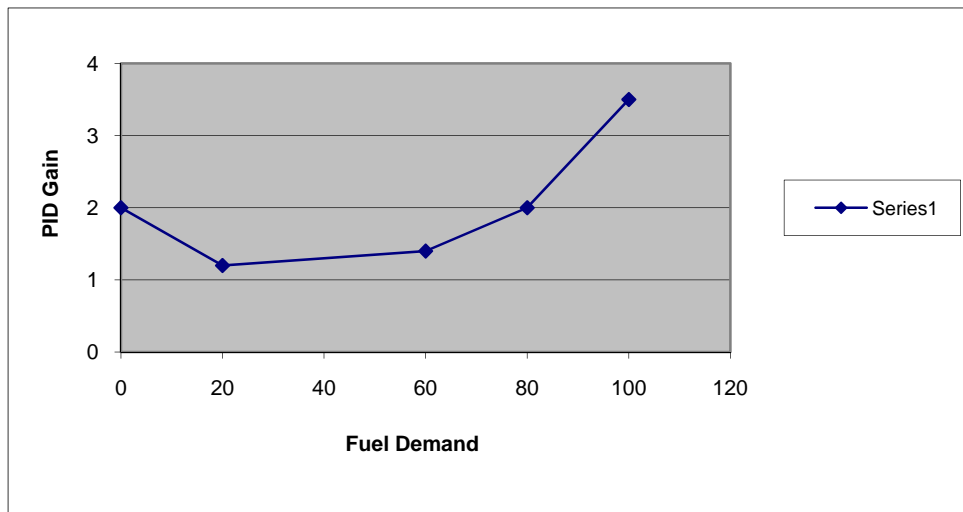

Figure 3-6. Linearized Gain Plot
Note in both charts that valve position falls on a curve. The menu does not permit the construction of a curve. However, with four slope segments (5 break points) available, a rough approximation of the curve can be created (see Figure 3-6).
- d. Create a plot of the system by plotting PID GAIN as a function of load. A typical result is shown in Figure 3-6.
3. Use the plot of the engine to determine the linearity of the fuel system. This curve should be linearized between inflection points as shown in Figure 3-6.